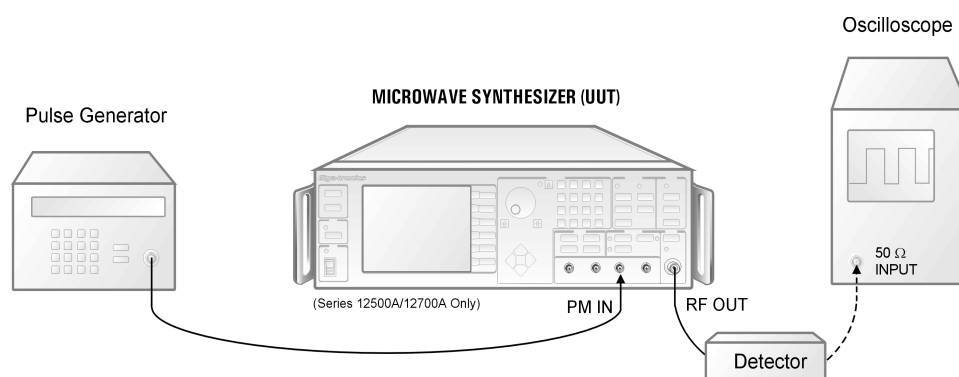

Figure 4-9: Pulse Modulation Rise/Fall Time Test
1. Connect the equipment as shown in Figure 4-9. The cable from the detector to the oscilloscope should be kept as short as possible.